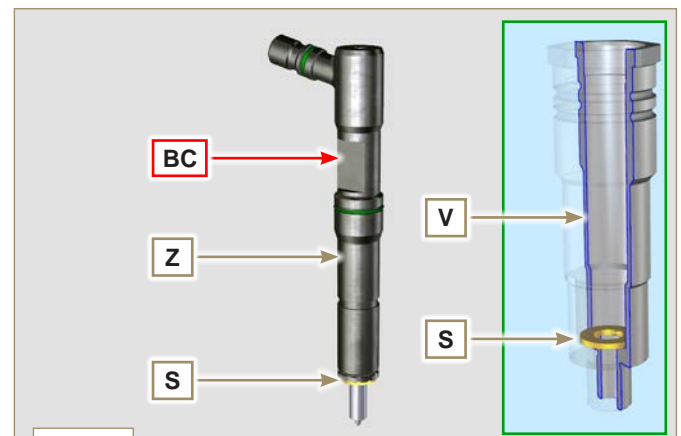

Fig. 6.7
- 4 - Ensure that gasket **S** has remained in the correct position (**Fig. 6.7**). Otherwise, recover the gasket from inside the electronic injector **V** manifold.